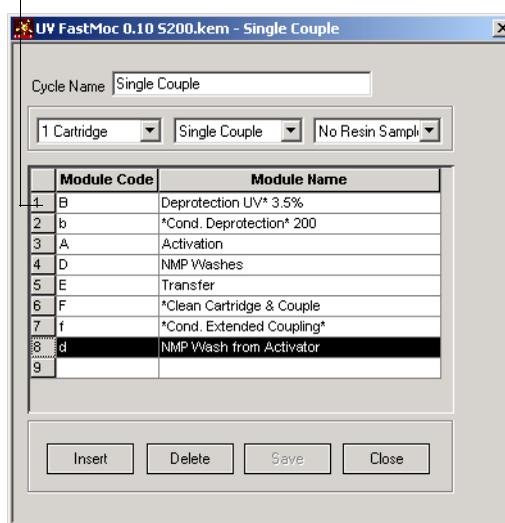

Figure 7-13 Selecting a Module.
1. In the Cycle screen, select the number of the module you want to delete (Figure 7-13).